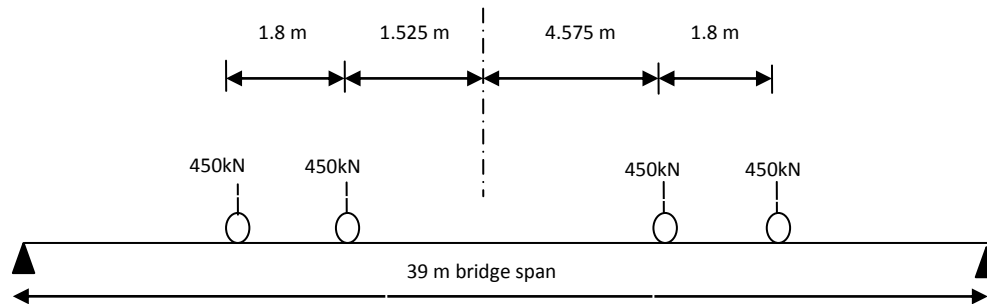

Figure 1: Elevation of HB Loading
- (b) Calculate the bending moment and reactions at the abutments when the deck is loaded by HB alone (45 units) at notional lane 1 as shown in Figure 1.
- iv. Group 3 in Figure 1
6. (a) Describe and explain **FIVE (5)** types of bearings. Use appropriate sketches to aid your explanation.